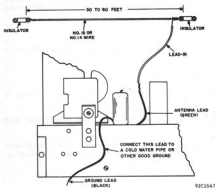

Fig. 1. Single Wire Antenna Installation
1. Construct the antenna as shown in Fig. 1 and connect it to the green lead located on the top left of the chassis. (See Fig. 3.)